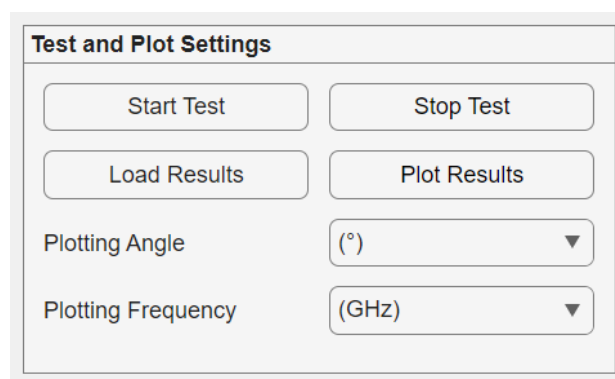

Figure 12: Test and Plot Settings
- This panel contains four buttons and two dropdown menus, as shown in **Figure 12**.